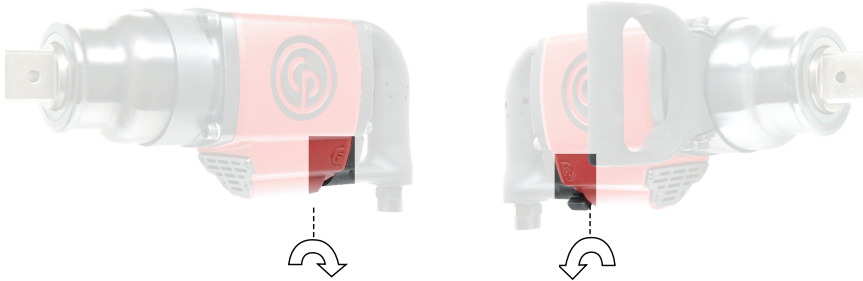

Fig. 3
- To switch rotation, turn the switch (B) as shown in Fig. 3
- To start the machine, simply pull the trigger (A). Machine speed is increased by increasing pressure on the trigger. Release the trigger to stop.
- Use the reverse switch (B) only when the drive spindle comes to a complete stop.